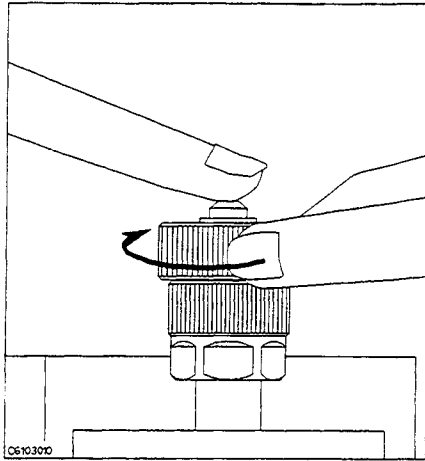

Figure 3-7.
9. Connect the 0 Ω termination on the APC-7® connector as shown in Figure 3-7.